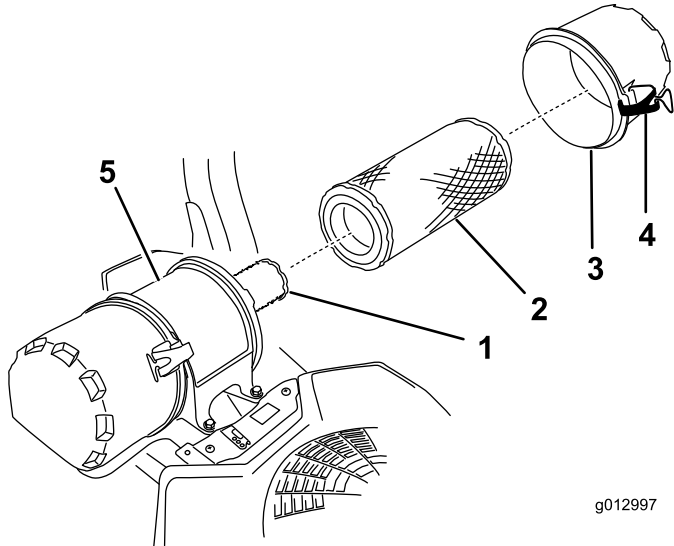

Figure 42
6. Release the latches on the air cleaner and pull the air-cleaner cover off the air-cleaner body (Figure 42).
8. Gently slide the primary filter out of the air-cleaner body (Figure 42).
2. If the inner filter is being replaced, carefully slide it into the filter body (Figure 42).
3. Carefully slide the primary filter over the inner filter (Figure 42).
4. Install the air-cleaner cover and secure the latches (Figure 42).